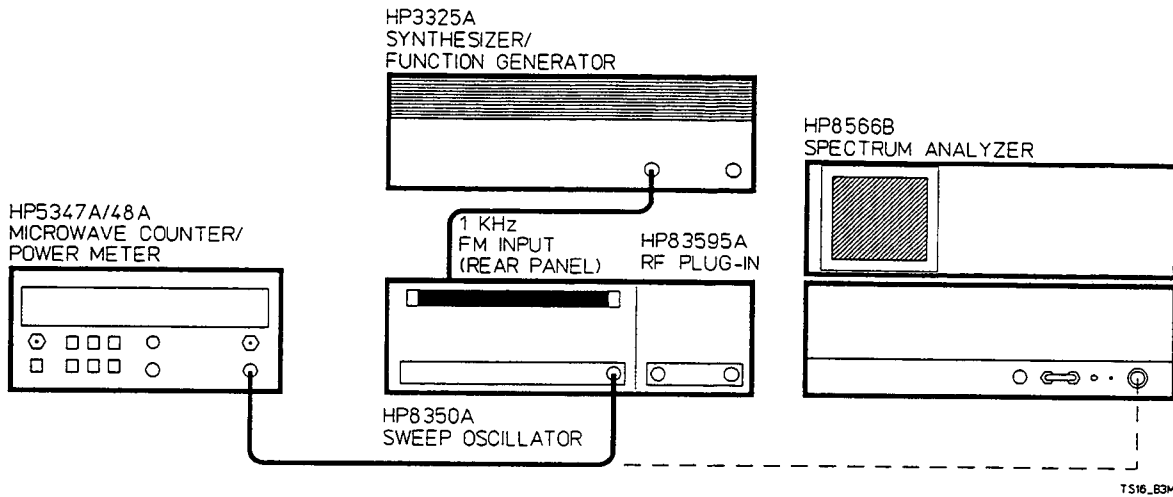

Figure 4-10. FM Tolerance Test Setup
1. Connect the equipment as shown in Figure 4-10.
The test source shown in Figure 4-10 is commonly available equipment, but is specified to ± 7 MHz FM deviation, or 14 MHz p-p at a 1 kHz modulating frequency. It may produce a test signal in excess of this, but its performance is not specified beyond 14 MHz p-p. For larger deviations with test equipment specifications, the HP 8780A Vector Signal Generator may be substituted.